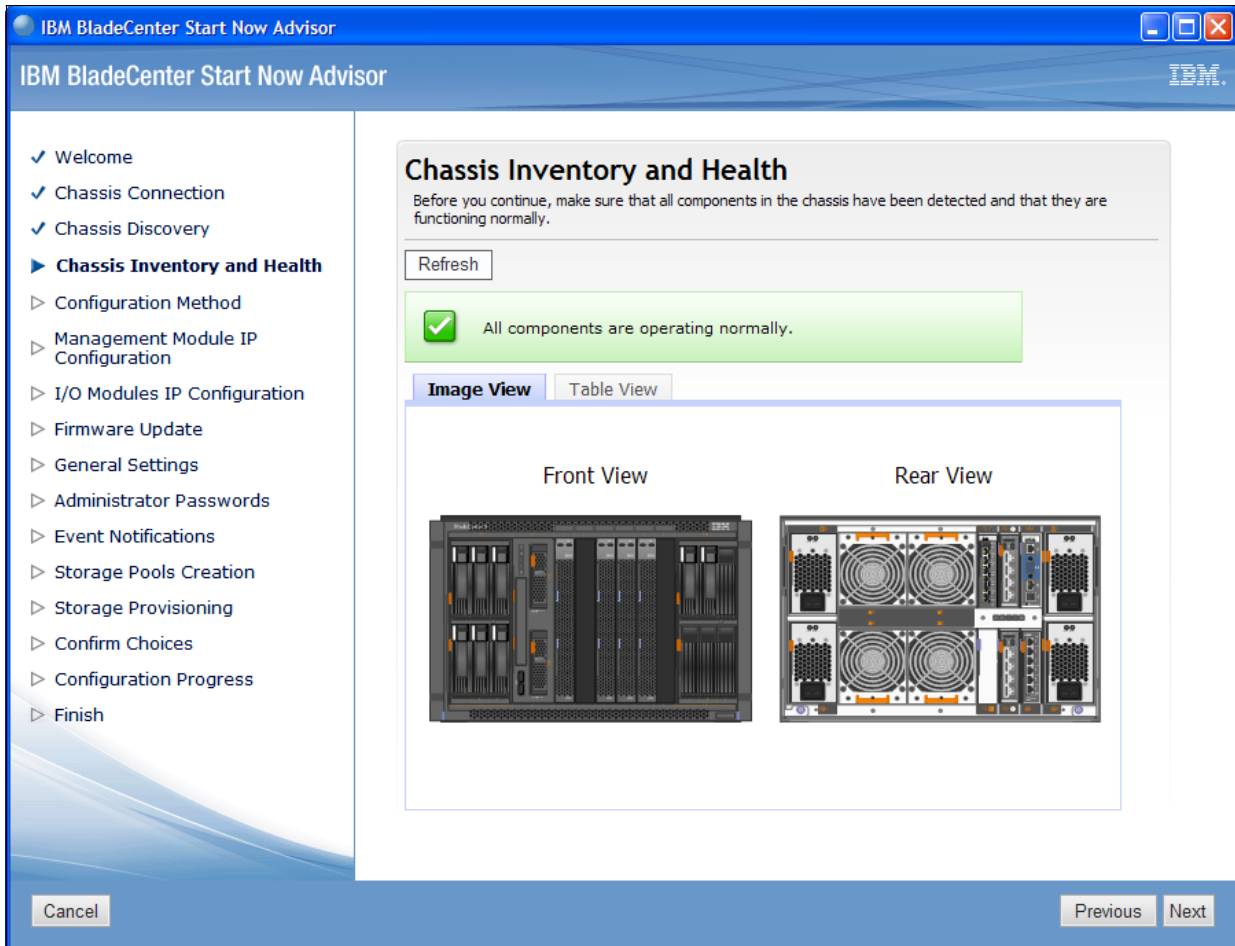

Figure 2-4 Chassis inventory and health
- Review the chassis inventory and health, displayed in the “Chassis Inventory and Health” panel (Figure 2-4). Before the Start Now Advisor configures the chassis, ensure that all components are functioning normally. Any error detected will stop Start Now Advisor from continuing. Click **Next**.